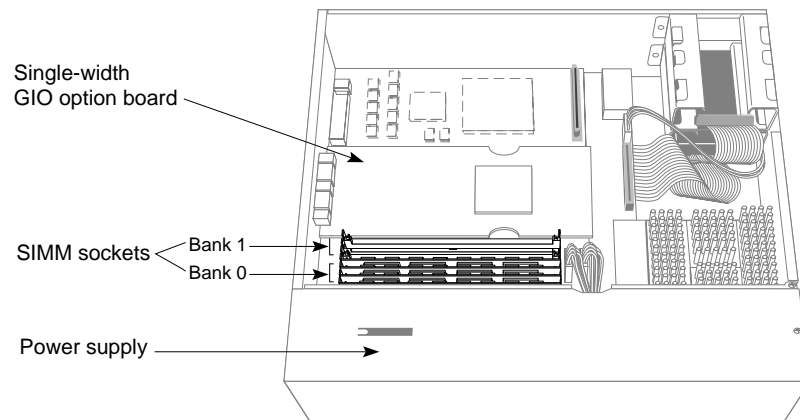

Figure 9-15 Locating the SIMMs
5. Move the system or position yourself so that you are facing the power supply, as shown in Figure 9-15.